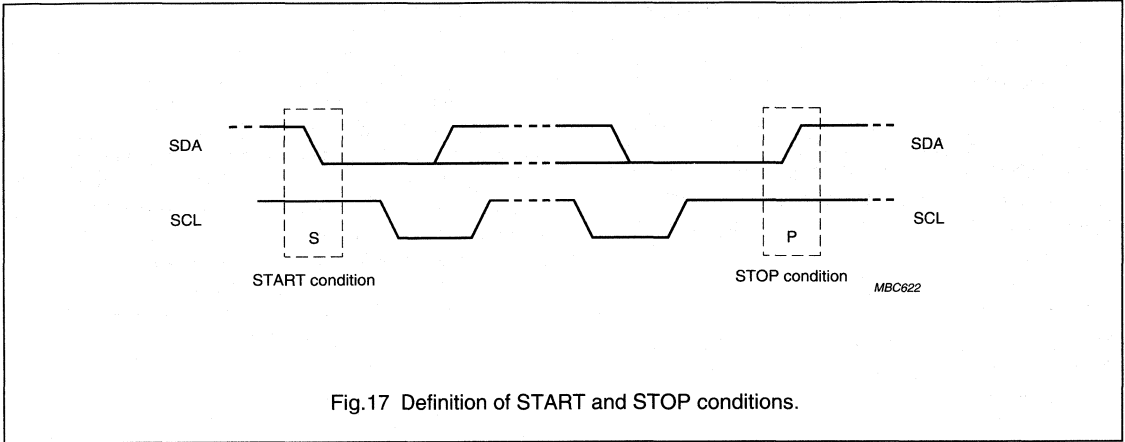

Fig.17 Definition of START and STOP conditions.
Both data and clock lines remain HIGH when the bus is not busy. A HIGH-to-LOW transition of the data line, while the clock is HIGH is defined as the START condition (S). A LOW-to-HIGH transition of the data line while the clock is HIGH is defined as the STOP condition (P) (see Fig. 17).